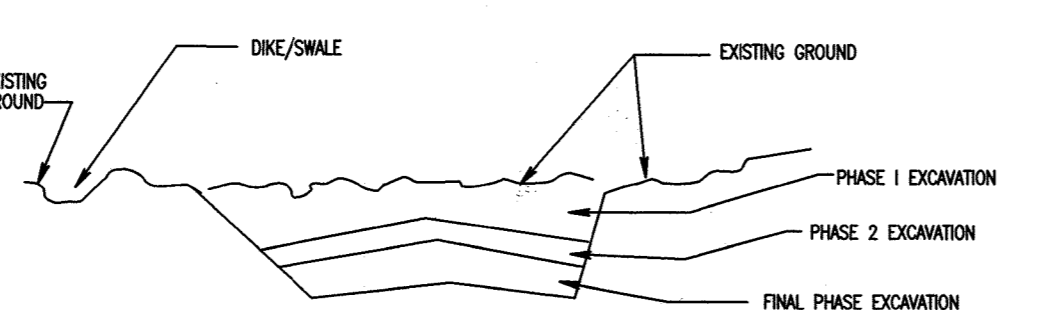

Figure B.1: Incremental Stabilization - Cut
- Construction sequence example (Refer to Figure B.1)